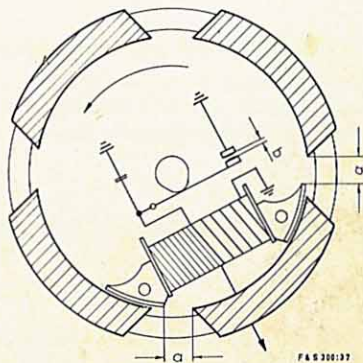

Fig. 83
1. Adjust contact breaker gap (b, Fig. 83) at highest cam position to 0.4 ± 0.05 mm (0.0157 ± 0.00197 in.).
6. If the ignition is correctly adjusted, the pole shoe gap (a, Fig. 83) should be $7 \dots 11$ mm ($0.27559 \dots 0.43307$ in.).